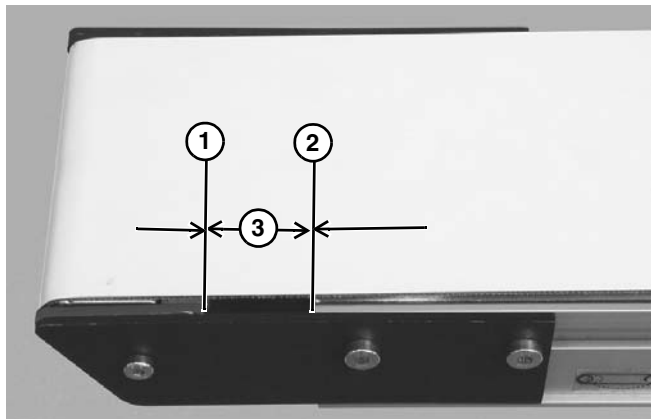

Figure 43
2. Adjust head plate assembly so the edge of the axle support plate (**Figure 43, item 1**) is separated from the end of the conveyor (**Figure 43, item 2**) by 1.125" (29 mm) (**Figure 43, item 3**). Replace belt if proper tensioning can not be obtained within a distance of 1.50" (38 mm). See NOTE.